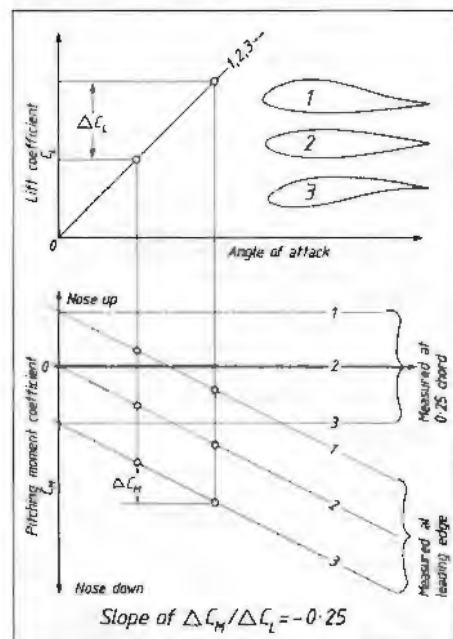

Fig 1. Basic section lift and pitching moment.
The major forces measured at any point on a wing consist of a lift and a pitching moment. In early wind tunnel tests this point was usually the leading edge, and the general characteristics shown in Fig 1 were found. Here the lift is measured from the zero lift line of each section, rather than the chord line which is just a geometrical convenience.
Lift which increases linearly with angle of attack and produces a change in moment proportional to a change of angle of attack must act at a fixed distance from the measurement reference point. The moment change for all sections was found to be about 0.25 nose down for a lift increase of 1.0, from which it follows that the lift acts at 0.25 of the chord. When the development of wing theory in the 1920s was able to show that this centre of lift or aerodynamic centre (AC) was a property of all such "lifting surfaces", the quarter chord became the standard reference point, giving the dotted moment curves in Fig 1.